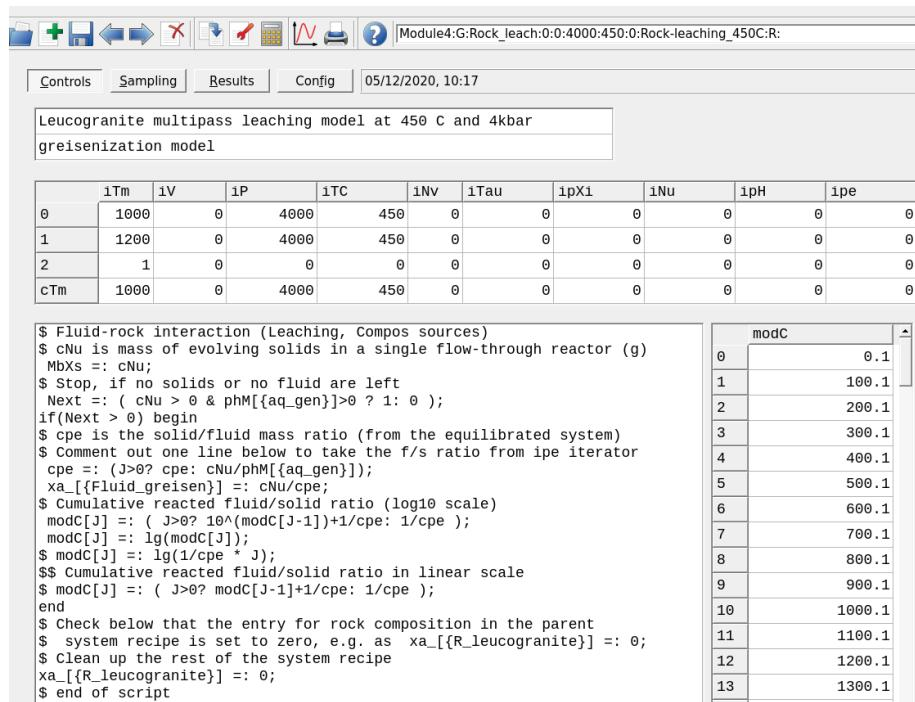

Figure 4.7: Controls window showing the set up for a Process simulation in R mode for the leaching model at 450 °C and 4 kbar.
- Check the **Controls** window; the set up should look like Figure 4.7.